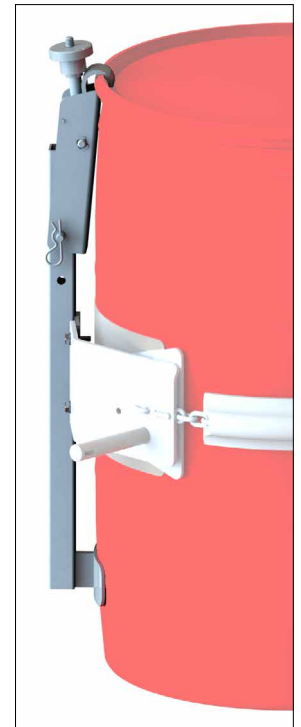

Figure 2.2
- 2. Stainless Steel Top Rim Clamp Kit # 4560BSS-P** to handle a RIMMED plastic drum (figure 2.2). Install the Top Rim Clamp Kit to handle a RIMMED plastic, steel or fiber drum with suitable top rim.